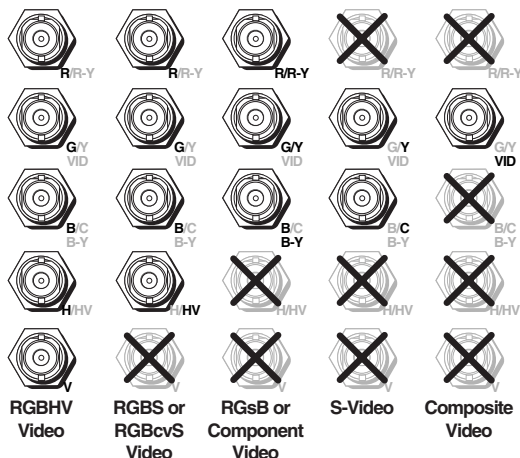

Figure 2-3 — Connections for various input video formats
- ① **AC power connector** — Plug a standard IEC power cord into this connector to connect the switcher to a 100 to 240VAC, 50 Hz or 60 Hz power source.
- ② **Input video connectors** — Connect computer or RGB video, component video, S-video, or composite video to these female BNC connectors. Figure 2-3 shows how to connect the various video formats.